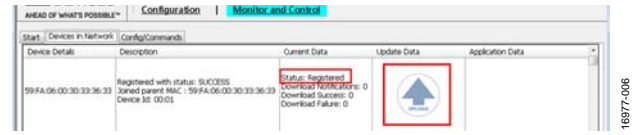

Figure 6. Monitor and Control
- Open the demonstration application running on the PC (on which the dongle is connected) and go to **Monitor and Control**. The connected node is visible as shown in Figure 6.
- Go to the **Monitor and Control > Devices in Network** tab and click the **Upload** button next to the desired node (see Figure 6). Choose the image from one of the sample images present in <installation directory>\Analog